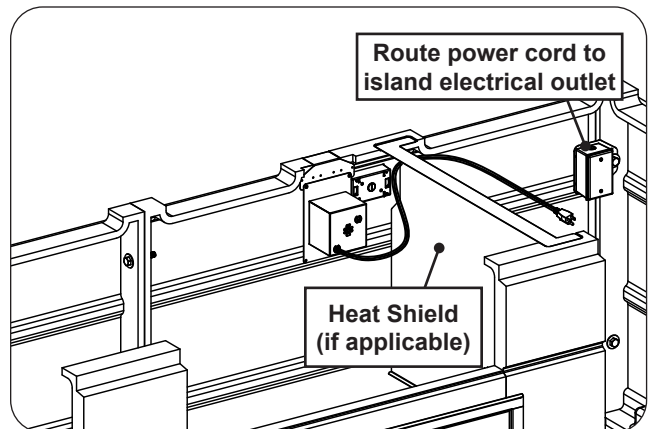

Fig. 12-3 Route power supply box wire
3. Once the box is installed route the power cord behind the heat shield (if applicable) and toward the electrical outlet (for future grill/griddle installation). See Fig 12-3.